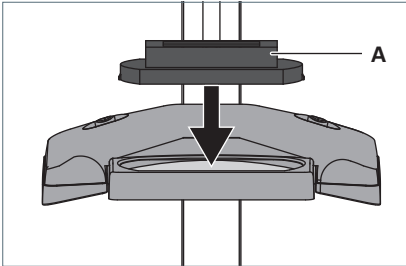

Fig. 3: Mounting the magnifier cover.
- Press the magnifier cover **A** on the magnifier from top, see Fig. 3.